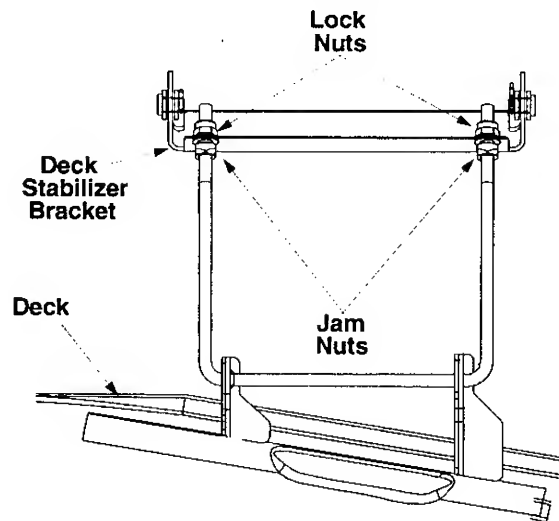

Figure 13
- Loosen the two jam nuts on the rear side of the deck stabilizer bracket. See Figure 13.
- Locate the two lock nuts on the opposite side of the stabilizer bracket. See Figure 13. Tighten the lock nuts to raise the front of the deck; loosen the lock nuts to lower the front of the deck.